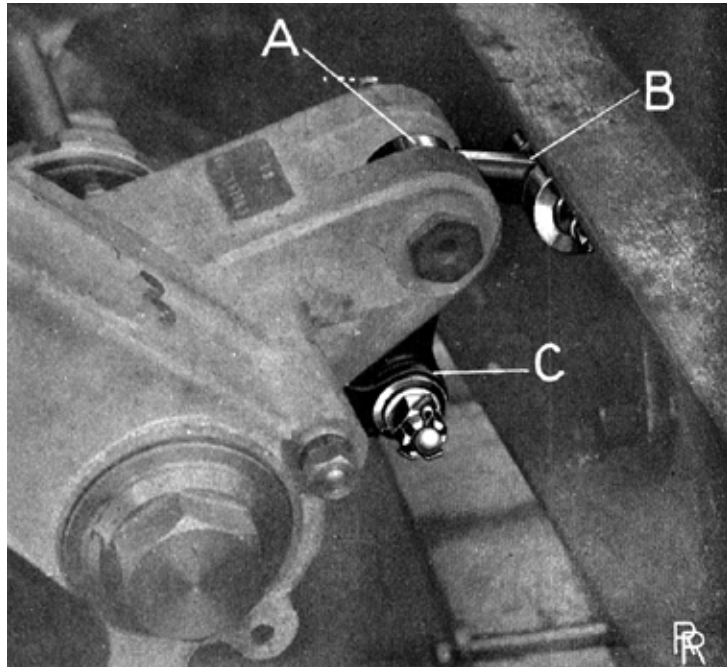

Fig. 39.
9. Engine Supports. (See Fig. 39)